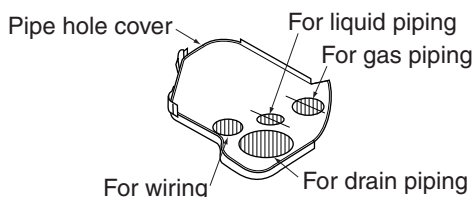

Fig. 24
- Once piping are rigged, cut the pipe hole cover to size and reattach. Use scissors for cutting. **(Refer to Fig. 24)**